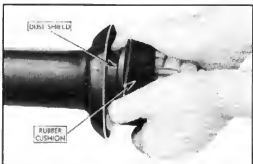

Fig. 33—Removing or Replacing Bearing Rubber Cushion
10. After the support bracket has been removed, the rubber cushion can be removed from the bearing with the hands as shown in Fig. 33.